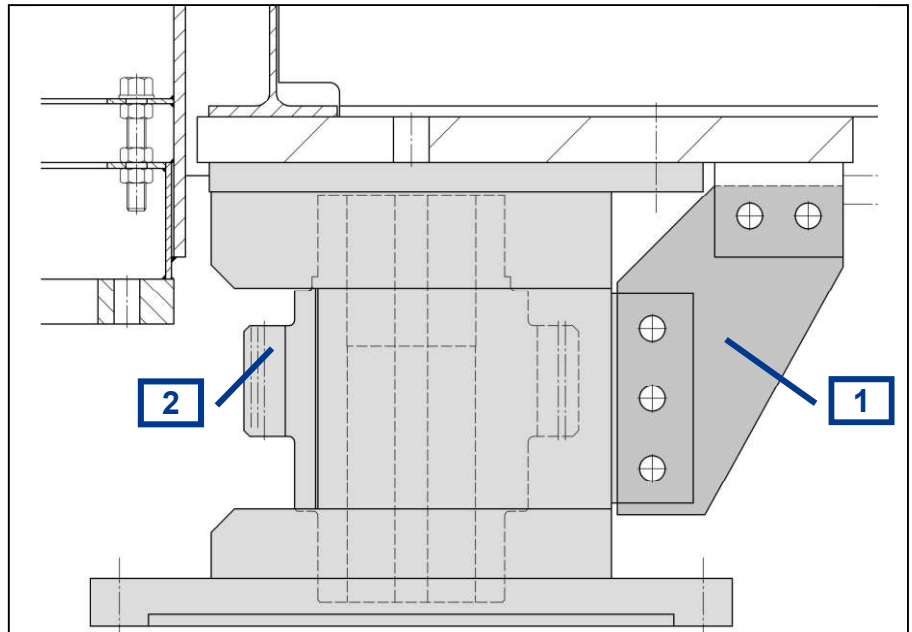

Fig.: 17 Drive pinions (schematic figure)
1. ► Unscrew the 3 torque supports (ribs) (Fig.: 17/[1]).
2. ► Secure the relocation bell (Fig.: 17/[2]) against falling off with a chain hoist.
3. ► Loosen the screw connections between the relocation bell (Fig.: 17/[2]) and the silo bottom.
4. ► Lower the relocation bell (Fig.: 17/[2]) with the chain hoist.
1. ► Attach the relocation bell (Fig.: 17/[2]) with the chain hoist.
2. ► Screw the relocation bell (Fig.: 17/[2]) to the clearing platform.
3. ► Disconnect the relocation bell (Fig.: 17/[2]) from the chain hoist.